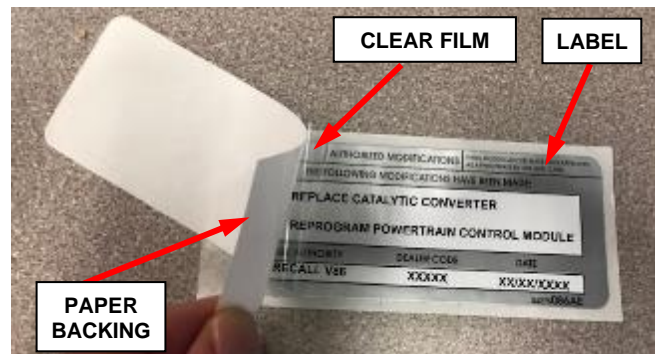

Figure 146 – Apply Clear Film
2. Remove the paper backing from the clear film on the front of the authorized modifications label then carefully apply the clear film over the front of the authorized modifications label (Figure 146).